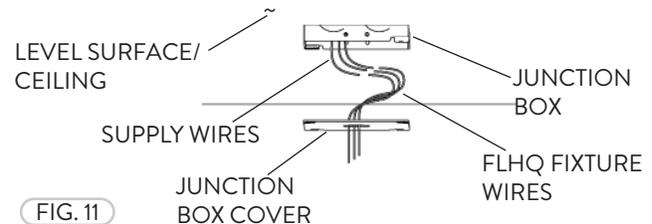

FIG. 11
- 3 After the FLHQ fixture is properly secured into place, refer to the Wiring Diagram to install the fixture to an AC Power Supply. All connections must be made inside a J-Box (not included) (Fig. 11).